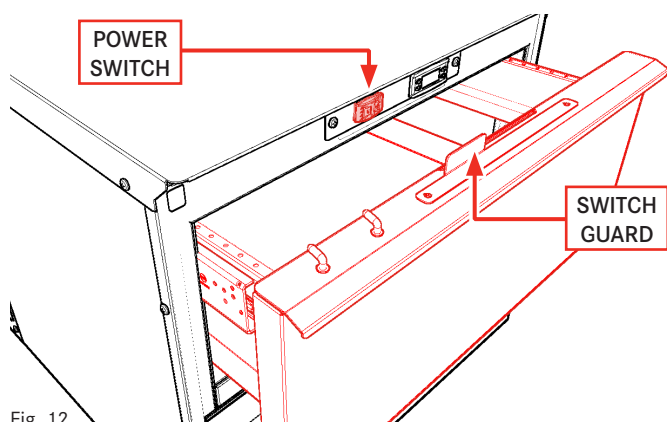

Fig. 12
1. Toggle the main power switch ON (Fig. 12).